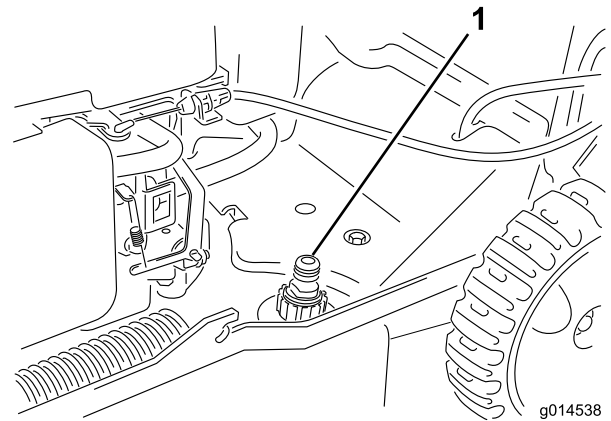

Figure 27
3. Attach a garden hose that is connected to a water supply to the washout port (Figure 27).